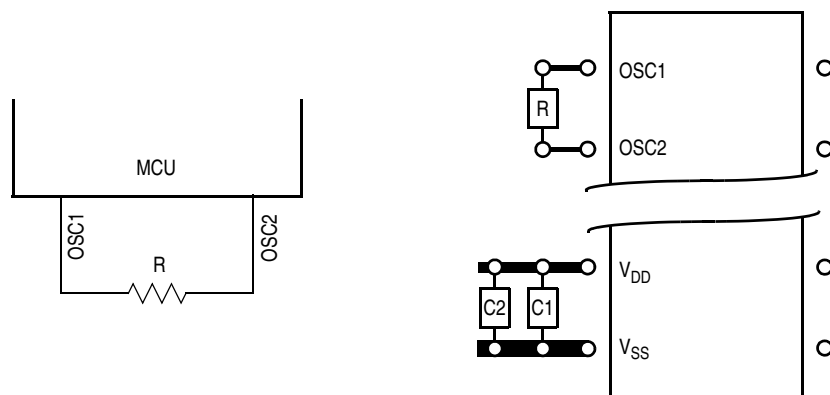

Figure A-1. RC Oscillator Connections
For greater cost reduction, the RC oscillator mask option allows the configuration shown in Figure A-1 to drive the on-chip oscillator. Mount the RC components as close as possible to the pins for startup stabilization and to minimize output distortion.
*The optional internal resistor is **not** recommended for configurations that use the RC oscillator connections as shown in Figure A-1. For such configurations, the oscillator internal resistor (OSCRES) bit of the mask option register should be programmed to a logic 0.*